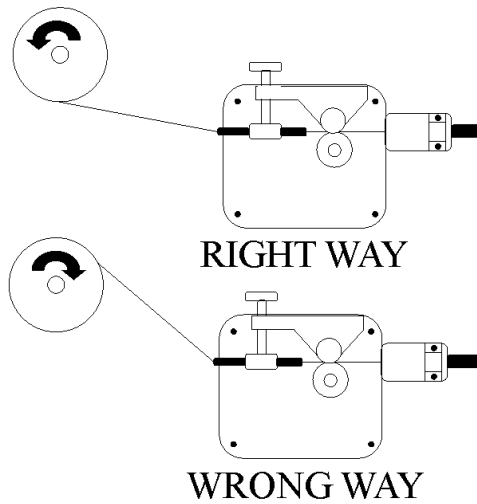

Figure 4
- iv. Place the spool on the spool hub so the wire will pull off the bottom of the spool. The welding wire should always come off the bottom of the spool into the drive mechanism. See Figure 4.